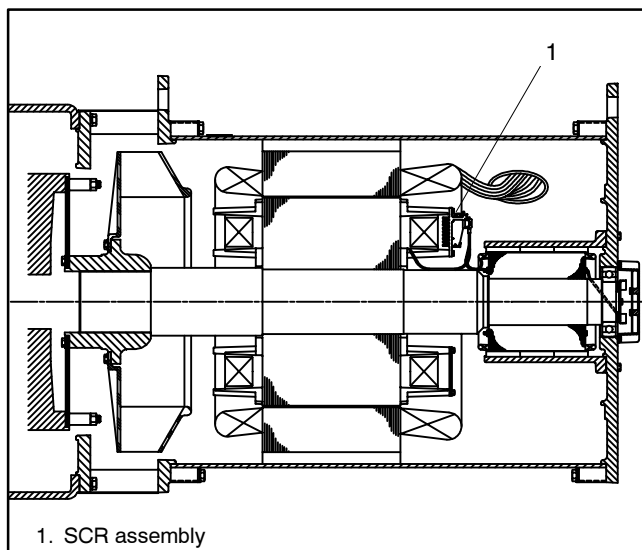

Figure 3 SCR Installation (Alternator Side View)
9. Install SCR assembly (A-258939) in position previously occupied by FR activator and heat sink; secure SCR with four screws (X-117-5) and internal tooth lock washers (X-22-9) supplied with kit. SCR heat sink should face engine end of generator as shown in Figure 3.